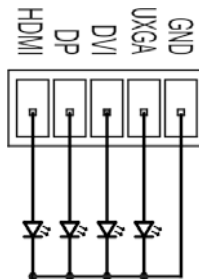

Figure 7: Remote Input Indicator LED Wiring
3. Connect pin 3 from the terminal block to the anode of the remote DVI indicator LED (see the example in Figure 7).